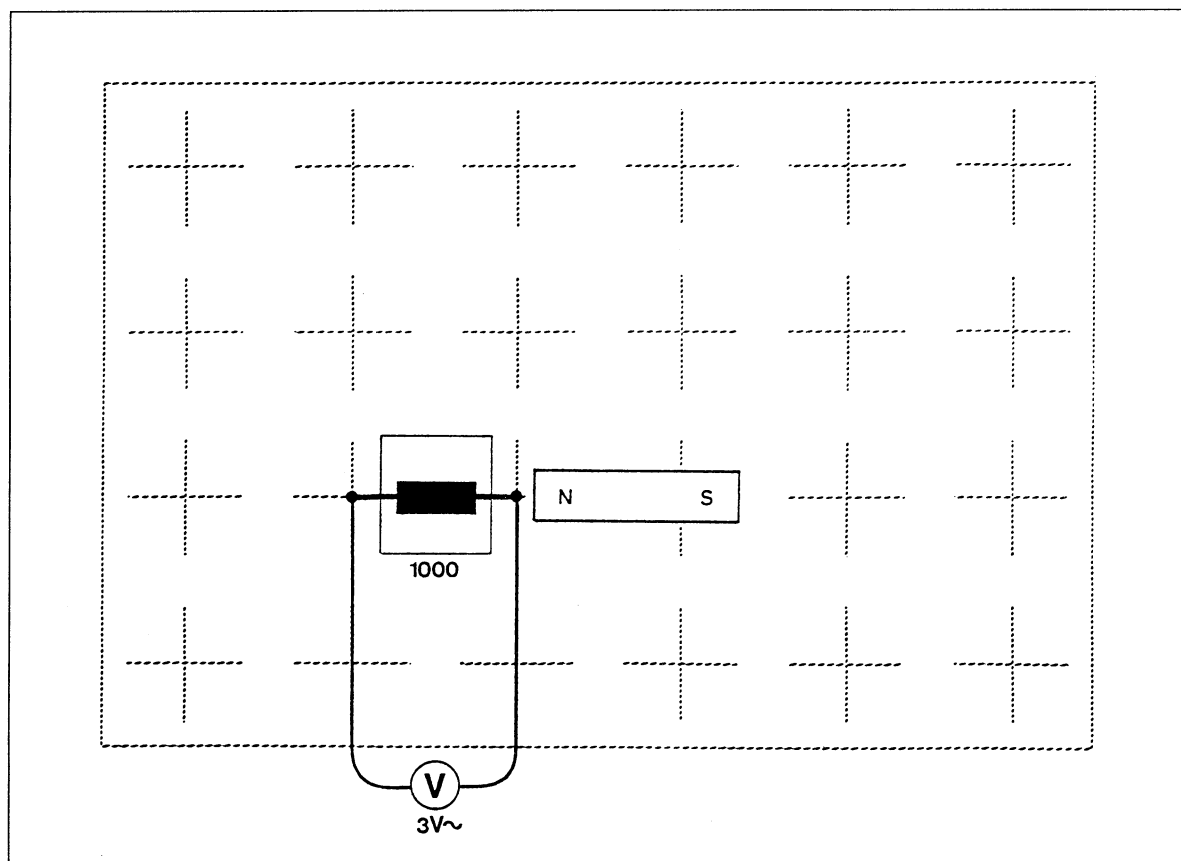

Fig. 2 Experiment setup: electromagnetic induction with bar magnet and coil and AC voltmeter
8. Connect the AC voltmeter to the circuit as shown in Fig. 2 and set the measuring range to 3 V AC.